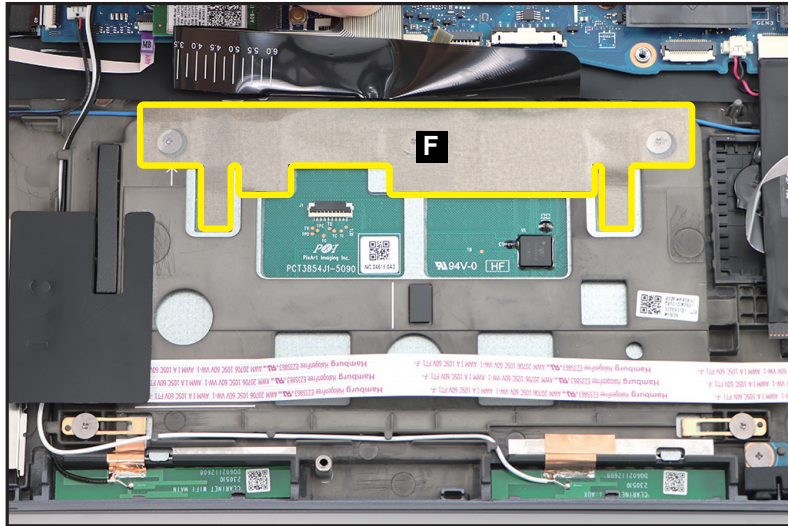

Figure 1-41. Touchpad Module Removal
5. Detach the conductive tape (F) from the touchpad module and top assembly (Figure 1-41).